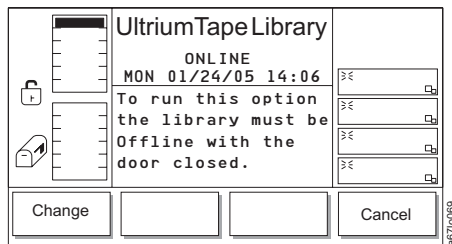

Figure 4-146. Library Submenu
2. Press the button below the **Library** softkey. The Library Submenu displays (see Figure 4-146).